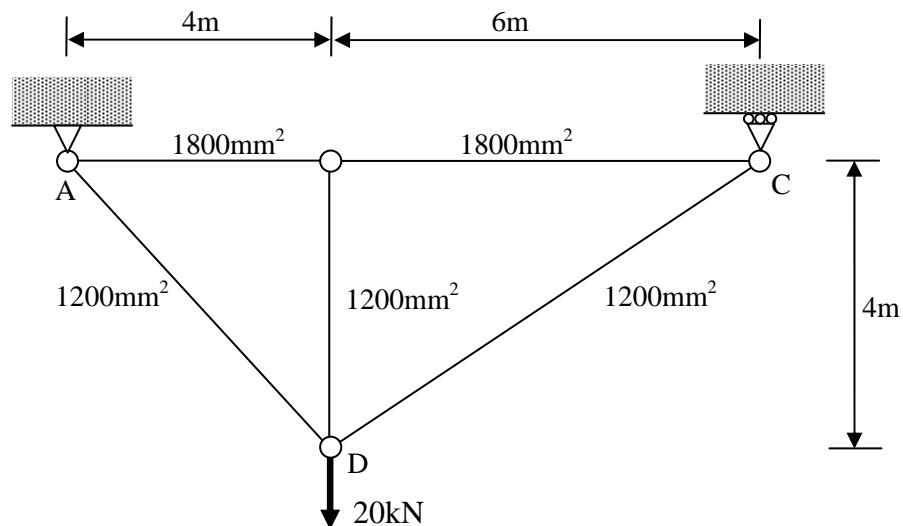

Figure 9
6. (a) For the truss shown in Figure 9, calculate the horizontal displacement of roller support C if members AB and BC suffer a temperature increase of 20°C , member AD is longer by 25mm and member CD is shorter by 25mm. Data for cross-sectional area A of all members is given in Figure 9. Assume Young's modulus $E=200\text{GPa}$ and coefficient of thermal expansion of member material $\alpha = 1.2 \times 10^{-5} /^{\circ}\text{C}$.